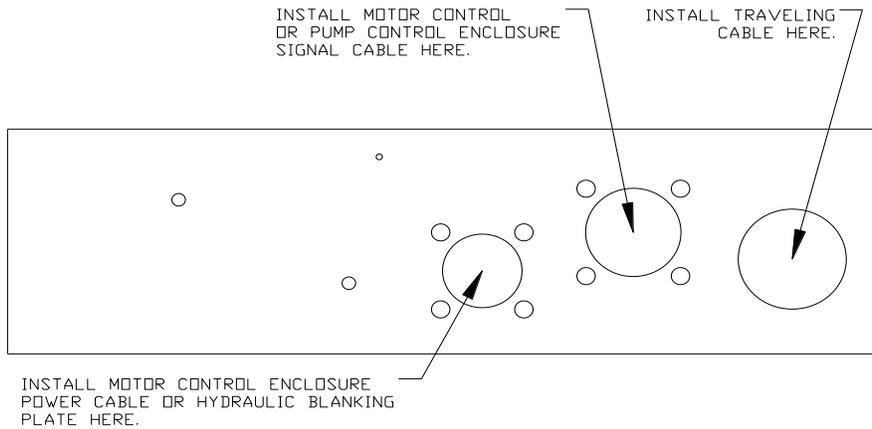

Figure 8 - CPU CONTROL ENCLOSURE, BOTTOM VIEW
4. Remove the blanking plate from the Pump Control Enclosure Power Cable Assembly (27310811) and attach as shown in Figure 8 using four (4) 8-32x 3/8" machine screws
1. Identify the end of the Traveling Cable that has the much longer length of the outer cable jacket removed. Using the identified end of the cable, remove the nut from cable clamp and then install cable through indicated opening as shown in Figure 8.
4. Identify the end of the Motor Control Enclosure Power Cable Assembly (21307648) with approximately 35" of wiring outside of the conduit. Using the identified end of the cable, install cable through indicated opening as shown in Figure 8 using four (4) 8-32x 3/8" machine screws.
1. Identify the end of the Pump Control Signal Cable Assembly (27310695) with the longest length of wiring outside of the conduit. Using the identified end of the cable, install cable through indicated opening as shown in Figure 8 using four (4) 8-32x 3/8" machine screws.